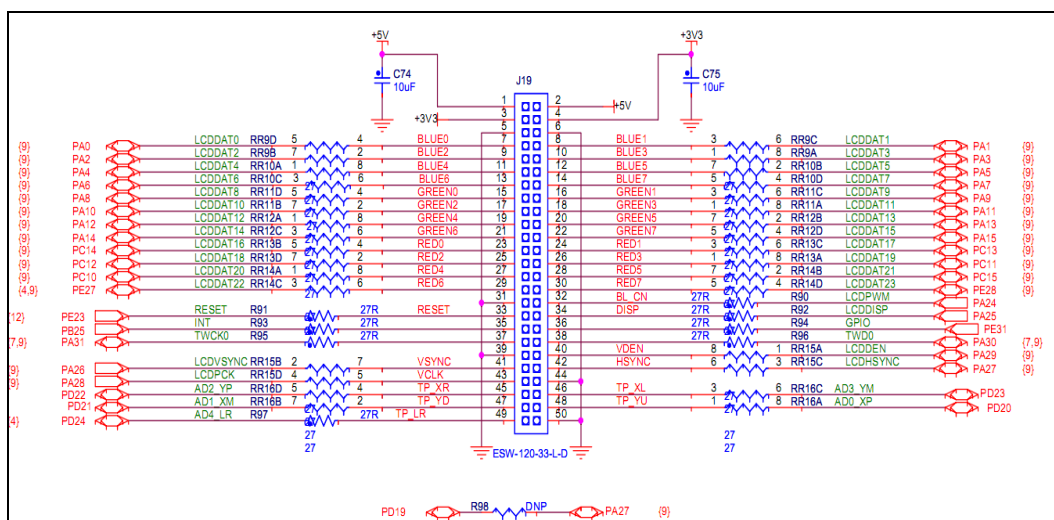

Figure 2-7
(1) LCD Hardware interface is shown in figure 2-7: